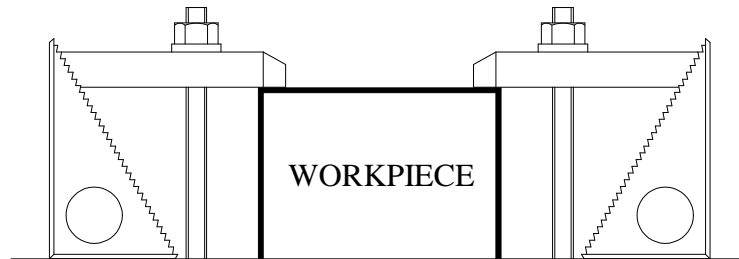

FIG. 6-2A
1. FIX THE WORKPIECE BY THE WORK FASTENING TOOL-KIT.(AS FIG. 6-2A)